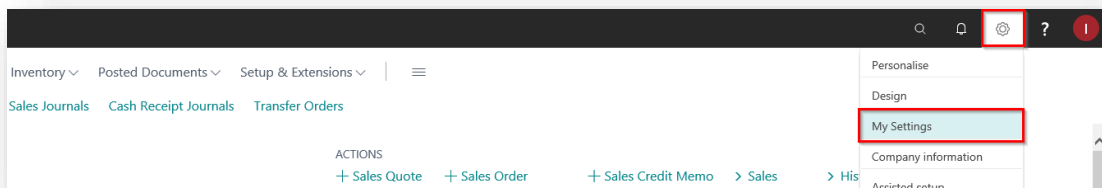

Figure 3-2
1. From your Dynamics 365 Business Central Web Client, in the app bar, select the **Settings** icon and then select **My Settings** (Figure 3-2).